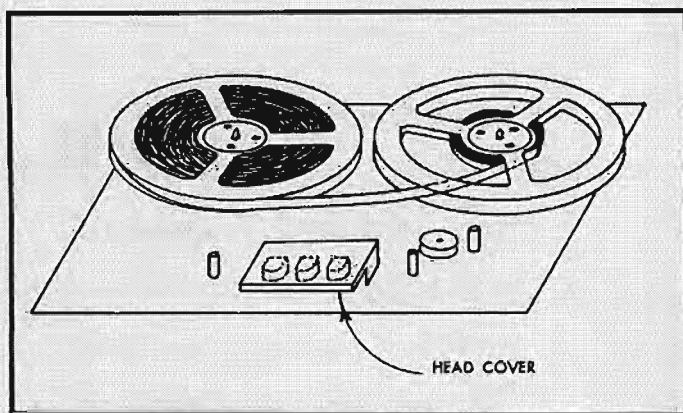

Fig. 3. Winding the tape directly from reel to reel can reduce head wear during re-winding.
4. *Manner in Which the Tape is Wound and Rewound.* When the tape is wound rapidly in the forward or reverse direction, some machines "lift" the tape slightly away from the heads. Many, possibly most, home machines fail to space the tape away from the heads during rapid wind and rewind, thereby causing appreciable head wear, perhaps more wear than occurs during normal record and playback. To avoid this unnecessary head wear, it is generally possible to wind the tape directly from one reel to the other without going past the heads, as illustrated in Fig. 3. It is merely necessary to lift the tape out of its normal path past the heads—usually a guide slot—and allow it to take the shortest path between reels. The possible disadvantage of this procedure is that the tape may not be wound as smoothly as if it were following its normal path.